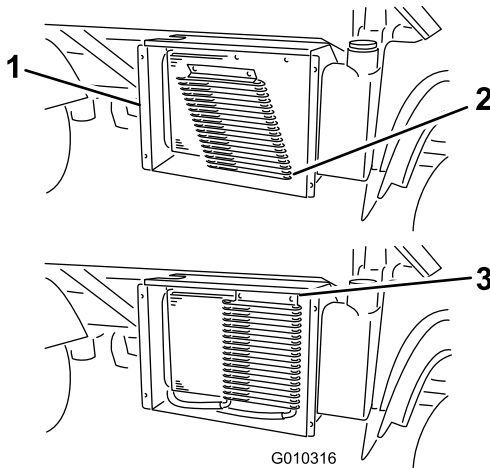

Figure 62
3. If so equipped, rotate the latches and pivot the oil cooler away from the radiator (Figure 62).